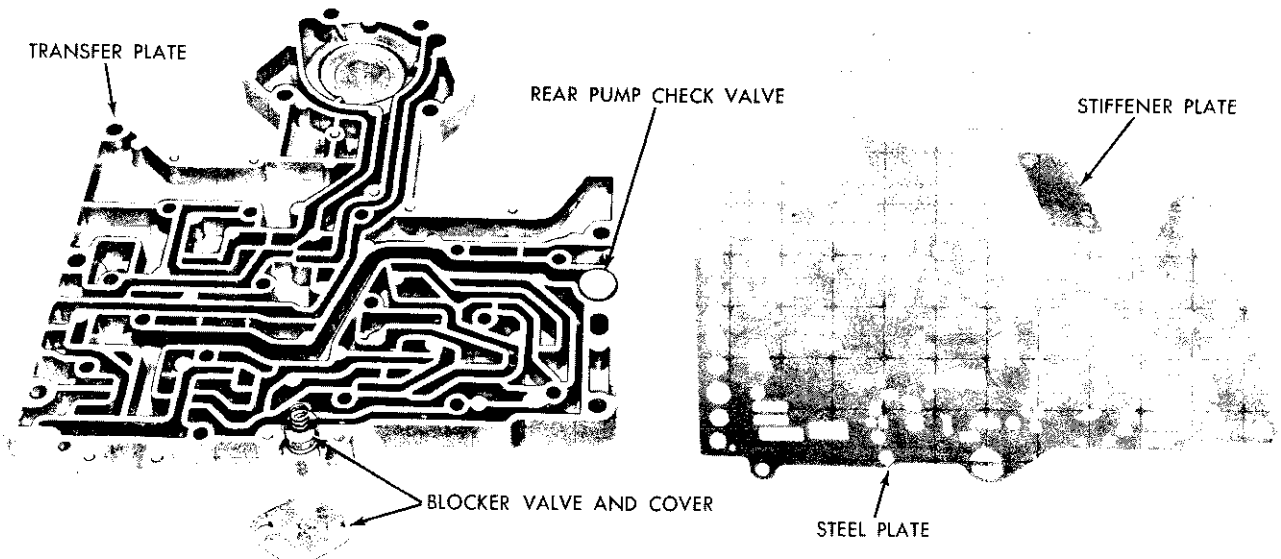
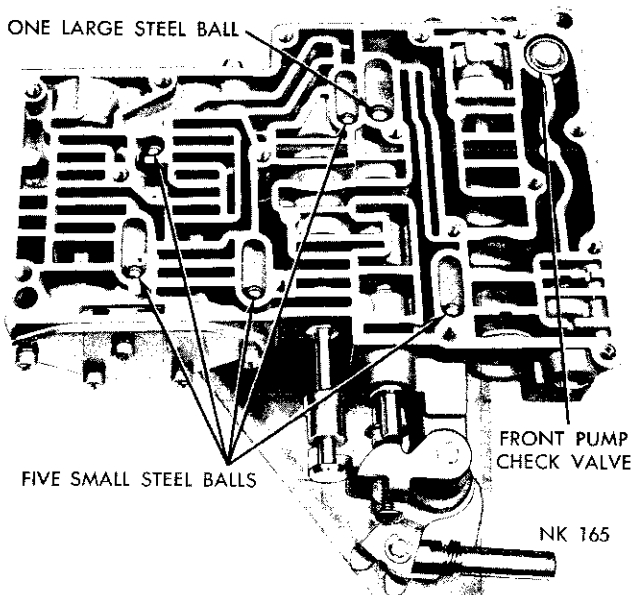
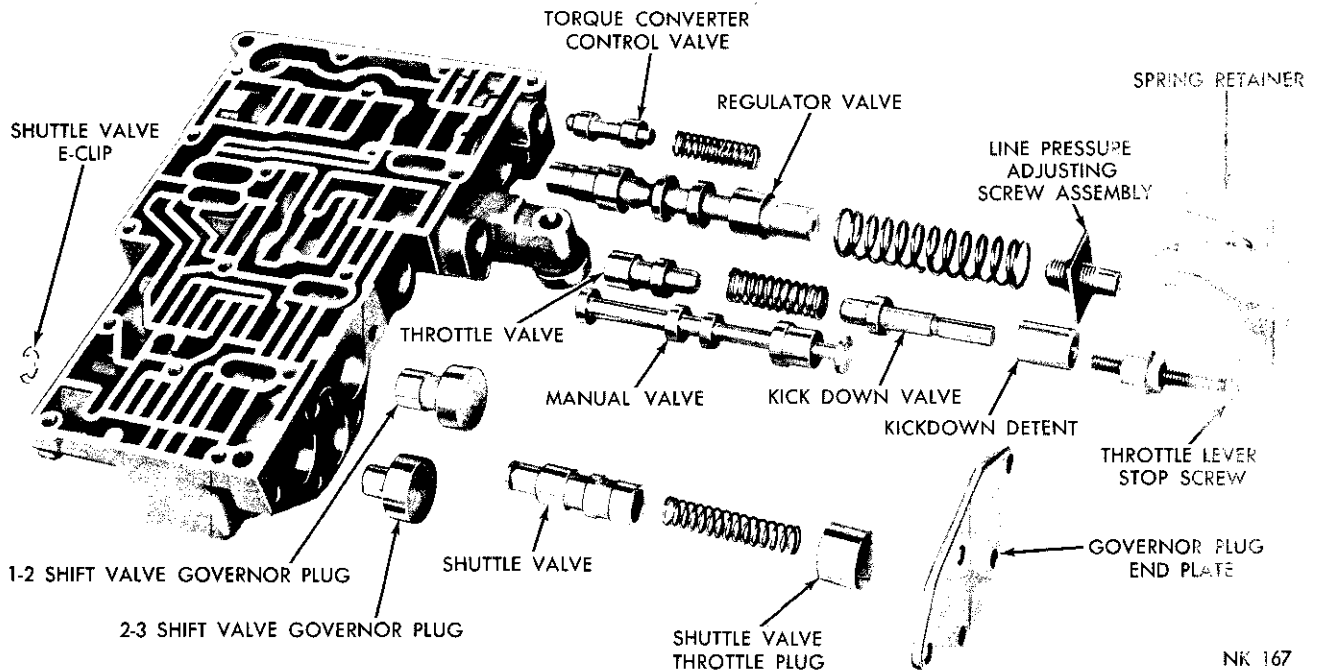

Fig. 59—Transfer and Steel Separator Plate Assembly (Disassembled)
Fig. 60—Front Pump Check Valve and Steel Ball Locations
Fig. 62—Valve Body—Lever Side (Disassembled)
(4) Slide the regulator valve out of the valve body. Slide the torque converter control valve out of the valve body.
(5) Remove the 14 transfer plate retaining screws. Carefully lift the transfer plate and steel plate assembly off the valve body.
(6) Invert the transfer plate assembly and remove the stiffener plate. Remove remaining screws securing the steel plate to the transfer plate, and carefully lift off the steel plate (Fig. 59). Remove the rear pump check valve and spring.
(7) Remove the reverse blocker valve cover and lift out the spring and valve.
(8) Note location of the six steel balls in the valve body, one of them is larger than the other five and is in the larger chamber (Fig. 60). Remove the steel balls, front pump check valve and spring.
(9) Invert the valve body and lay it on a clean cloth or paper. Remove E-clip from the throttle lever
(13) Remove the throttle lever stop screw assembly (Fig. 62), being careful not to disturb the setting any more than is necessary.
(14) Remove the kickdown detent, kickdown valve, throttle valve spring and the throttle valve (Fig. 62).
(15) Remove the governor plug end plate (Fig. 62). Tip up the valve body to allow the shuttle valve, throttle plug, spring, shuttle valve, and the shift valve governor plugs to slide out into your hand.
(1) Place the rear pump check valve and spring in the transfer plate (Fig. 59). Position the steel plate on the transfer plate, and install four steel plate to transfer plate retaining screws. Make sure bolt holes in the steel plate and transfer plate are aligned, then
(2) Turn transfer plate over and install the reverse blocker valve spring and valve (Fig. 59). Rotate the valve until it seats through the steel plate. Hold the valve down and install blocker valve cover plate. Tighten the two retaining screws to 28 inch-pounds torque.
(3) Place the 1-2 and 2-3 shift valve governor plugs in their respective bores (Fig. 62). Install the shuttle valve, spring and shuttle valve throttle plug. Install the governor plug end plate and tighten the five retaining screws to 28 inch-pounds torque.
(4) Install E-clip on the end of the shuttle valve (Fig. 62). Install the shuttle valve cover plate and tighten the four retaining screws to 28 inch-pounds torque.
(7) Install the throttle valve and spring (Fig. 62). Slide the kickdown detent on the kickdown valve (counterbore side of detent toward valve), then install the assembly in the valve body.
(8) Install the throttle lever stop screw (Fig. 62), and tighten lock nut finger tight.
(9) Install the manual valve in the valve body (Fig. 62).
(11) Position the valve body assembly on the repair stand.
(12) Place the six steel balls in the valve body chambers with the large ball in the large chamber (Fig. 60). Place the front pump check valve and spring in the valve body.
(13) Position the transfer plate assembly on the valve body. Install the 14 retaining screws, starting at the center and working outward, tighten the screws to 28 inch-pounds torque.
(14) Install the torque converter valve and the regulator valve (Fig. 62).
(15) Position the torque converter valve spring and regulator valve spring over the ends of their respective valves. Place the line pressure adjusting screw